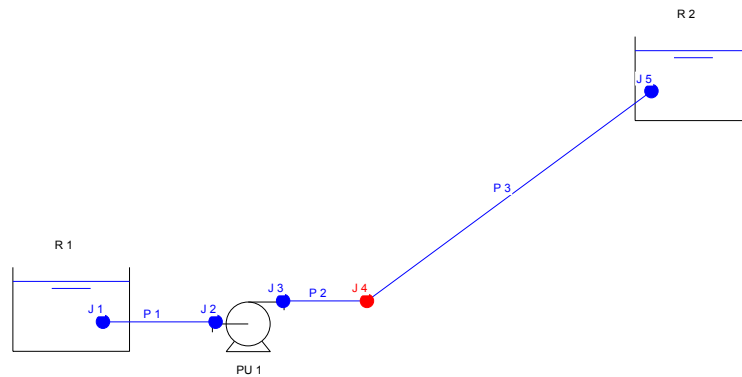

Figure 3.3 Pump system
- Draw the system shown on Figure 3.3 on your design sheet
- reservoirs**: change the downstream reservoir level (R2 in Figure 3.3) to 200.00m (check that the upstream sump level is 100.00 m)
- suction pipe** (P1 in Figure 3.3): use the **Extras** page of its property box to add a 90° elbow bend at 5m Chainage.
- delivery pipe** (P2 in Figure 3.3): use the **Extras** page of its property box to add a non-return valve (at 2 m Chainage), a gate valve (at 5 m Chainage) and a 90° elbow bend (at 8 m Chainage).
- rising main** (P3 in Figure 3.3): set its length as 500m and internal diameter to 200mm.